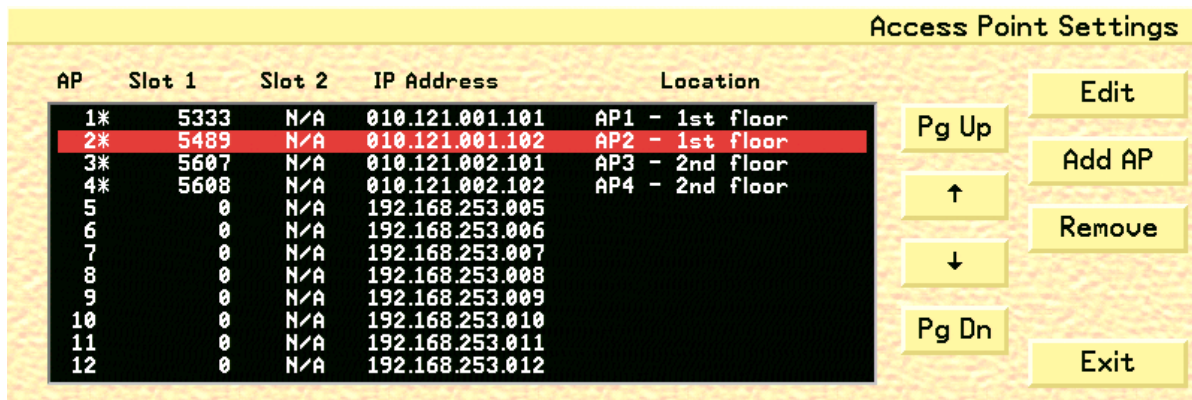

Fig. 62. Access Point Settings Screen
1. Click the **Access Point** button on the OpenNet LAN screen to open the Access Point Settings screen (fig. 62).
1. Click the **Access Point** button on the OpenNet LAN screen to open the Access Point Settings screen (see fig. 62 on page 106).